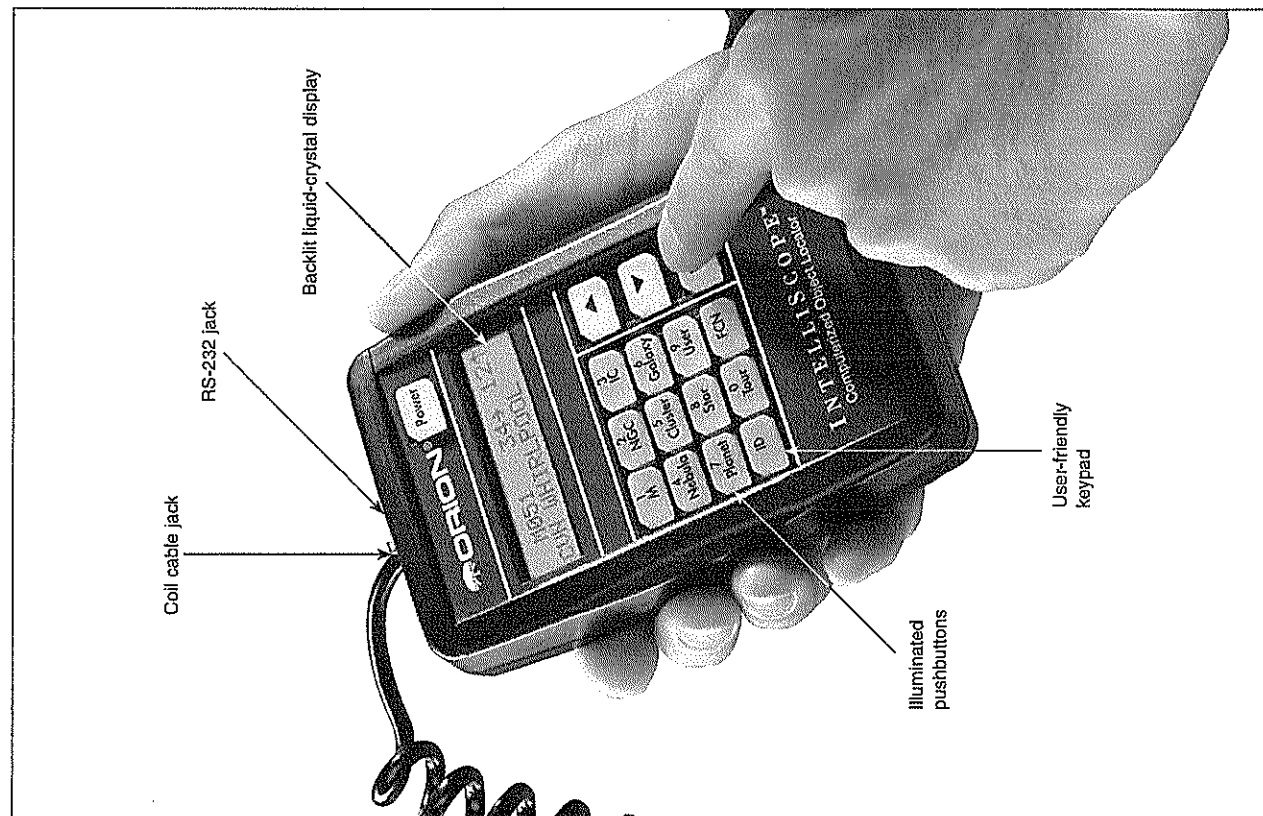

Figure 1. The IntelliScope Computerized Object Locator.
- 9) Insert one end of the coil cable into the larger of the two jacks on the top of the IntelliScope controller (Figure 1). Insert the other end into the "IntelliScope Computerized Controller Port" on the left side of the Dobsonian base.